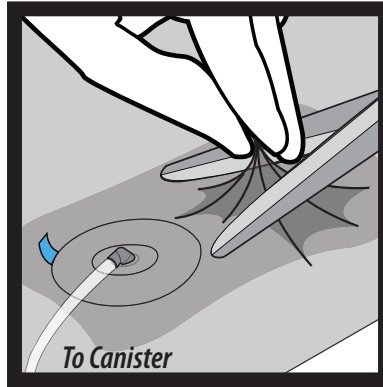

Figure 18
5. Select desired location for Irrigation SpeedConnect™ port. Cut a 1cm diameter hole in the top of the drape where the Irrigation SpeedConnect™ is to be placed (**Figure 18**).